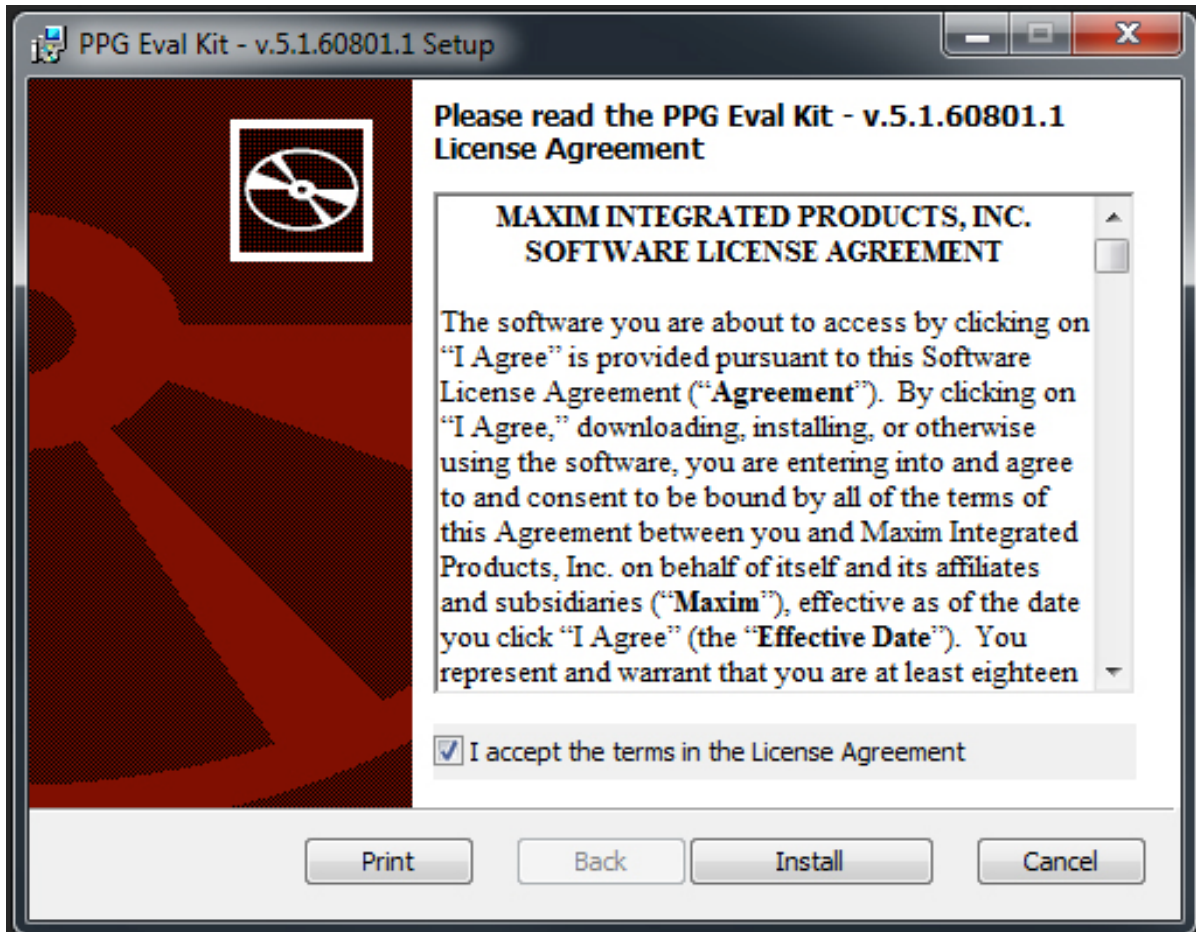
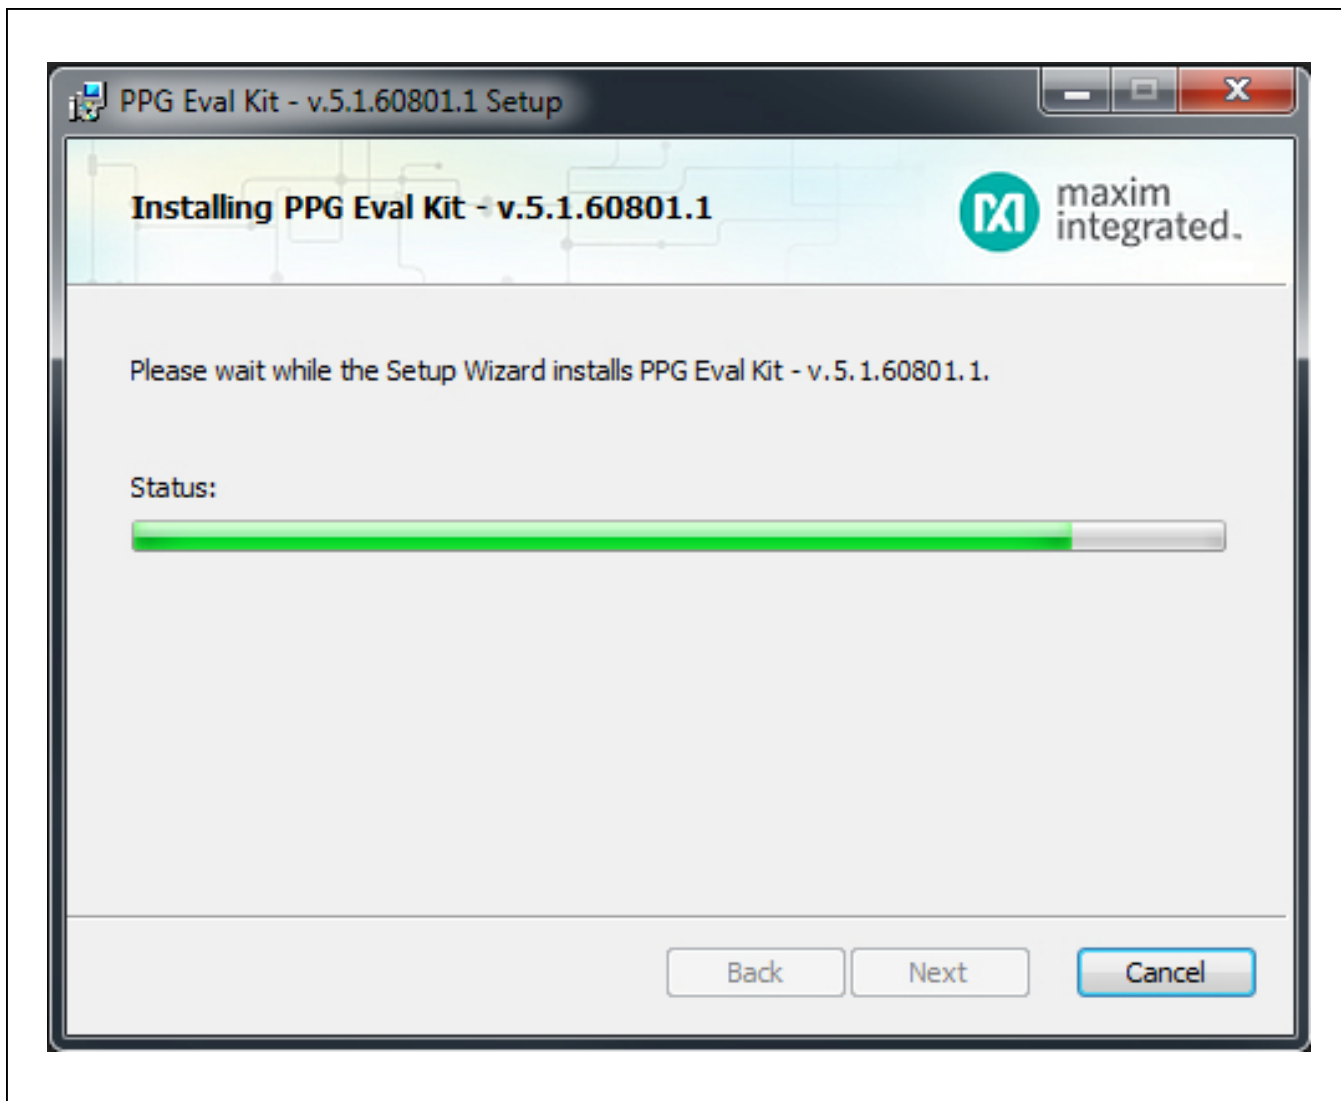
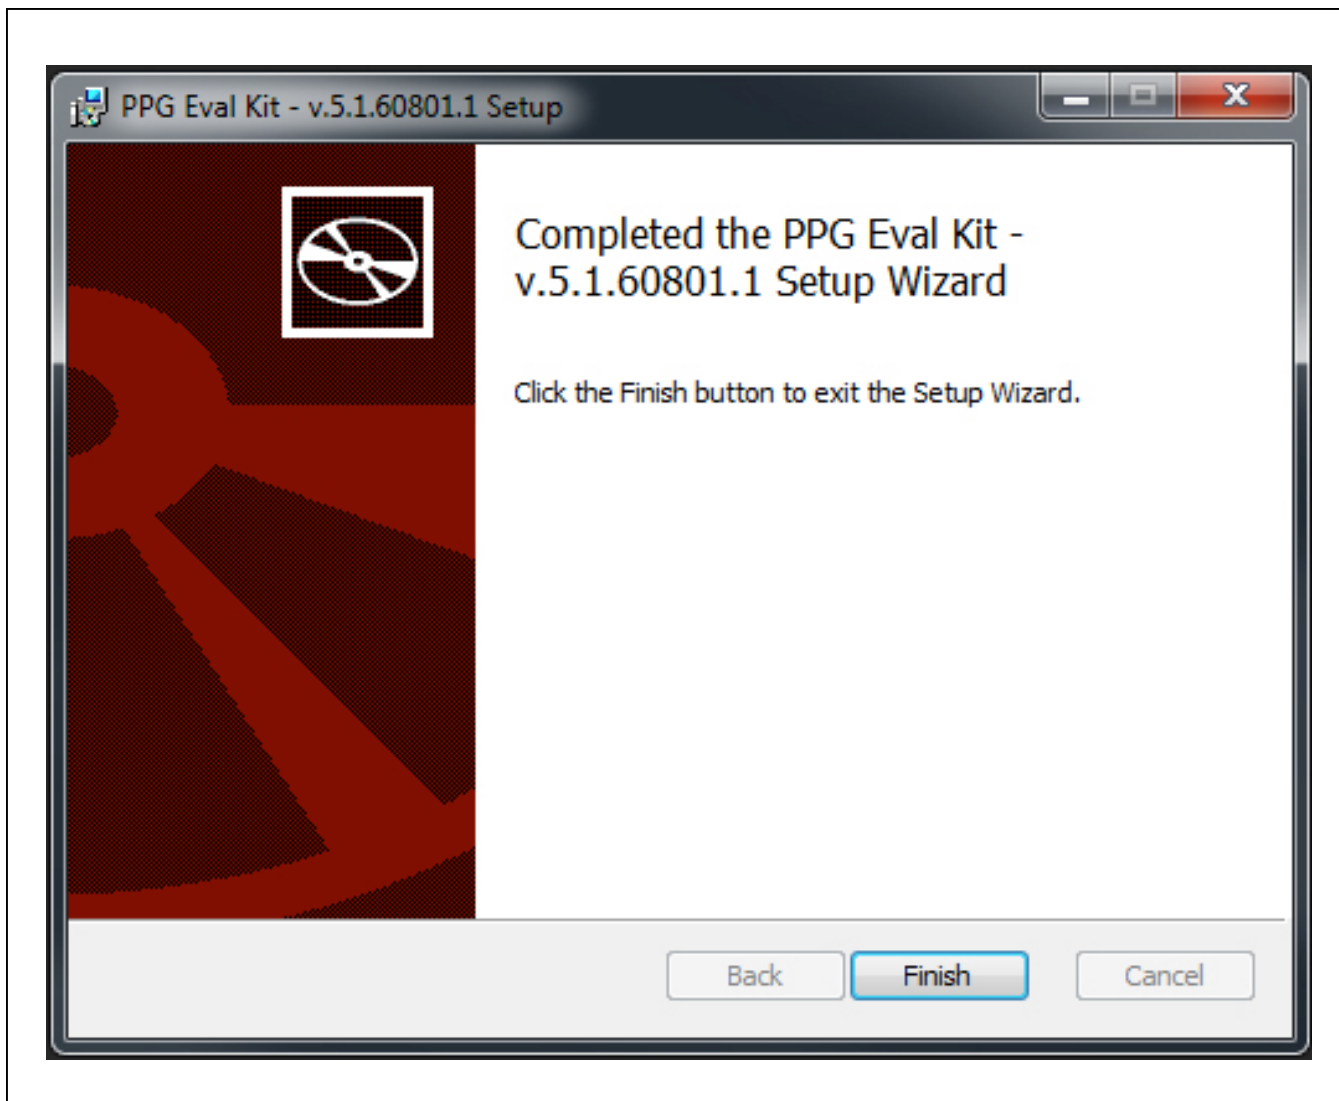

Figure 1. Setup SensorStudio Software – Step 1
Figure 2. Setup SensorStudio Software – Step 2
Figure 3. Setup SensorStudio Software – Step 3
- 2) Open *SetupPPG_EvKit_max86160_x.x.msi* and follow the instructions from the pop-up windows as shown in Figure 1, Figure 2, and Figure 3.